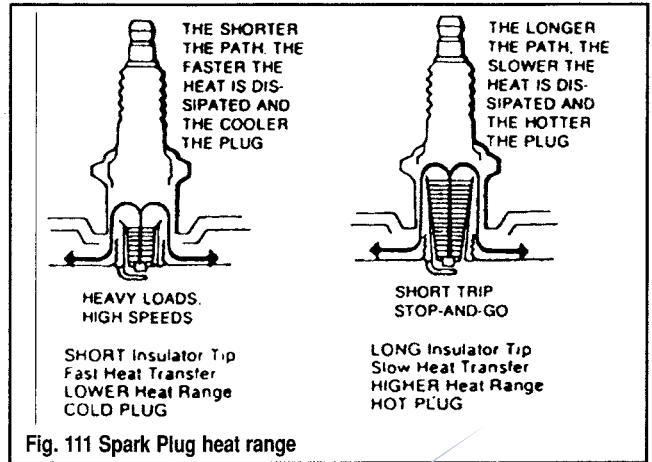

Fig. 111 Spark Plug heat range
- ◆ See Figures 111, 112 and 113